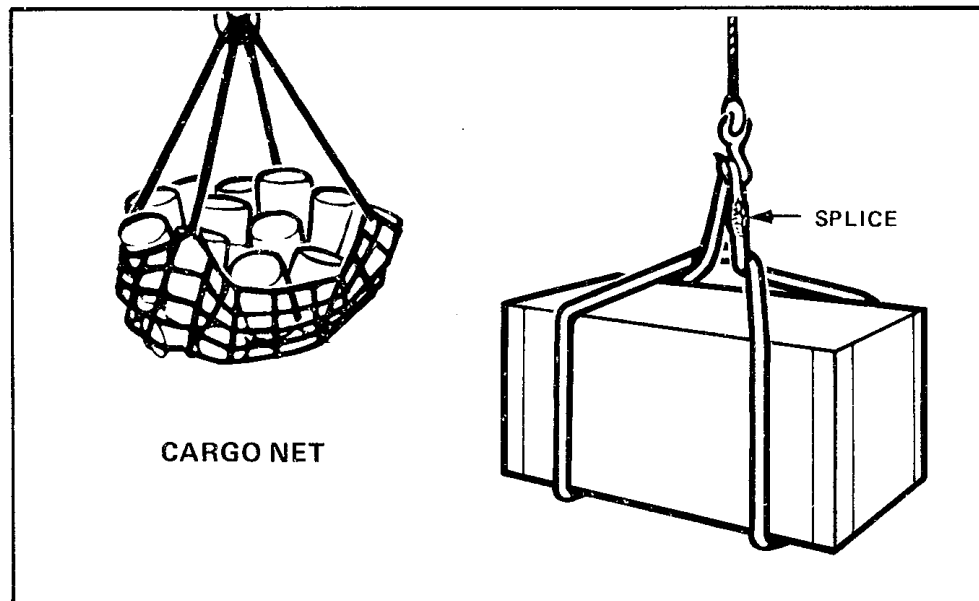

Figure 4-67 Cargo Nets
17. **Cargo Nets** — Probably the most useful of all methods of slinging is the **cargo net**. It may be loaded flat on the deck and the slings placed quite easily on a hook. Cargo nets should not be used for fragile or very heavy objects. See Figure 4-67.